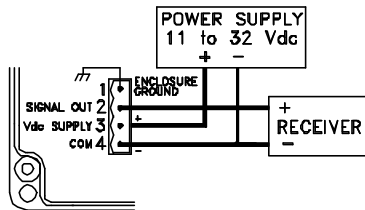

Figure 1
- A. Voltage Output units (PX292-XXXXD5V): With the voltmeter connected across the signal terminals (see Figure 1) apply full pressure to the instrument and adjust the Span potentiometer (R1), until the output reading is 5.00V.
Figure 1 shows typical transmitter wiring.